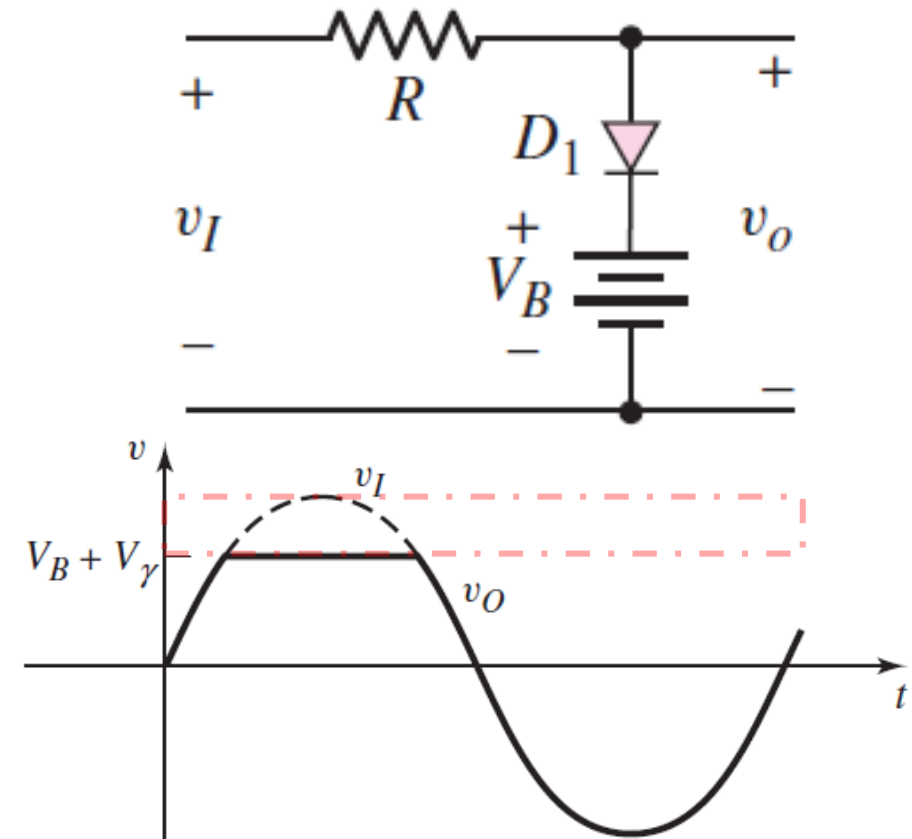

Figure 2.21
- The resistor  $R$  in Figure 2.21 is selected to: